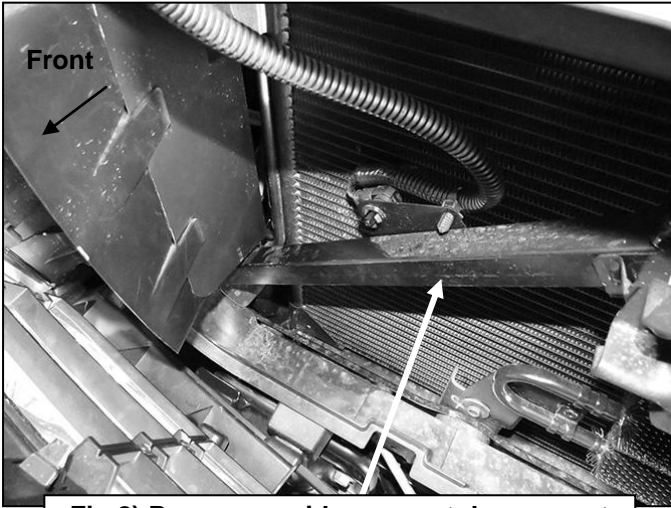

Fig 8) Passenger side square tube support between grille and radiator pictured
7. Locate the square tube support braces running up at an angle from the top of the frame channel to the bottom of the hood release mechanism, **(Figure 8)**. Select the passenger side Inner Top Bracket and (1) "U" Backing Plate, **(Figure 9)**. Hold the "U" Bracket up to and around the back of the square tube, **(Figure 10)**. Bolt the Inner Top Bracket to the "U" Bracket with (2) 6mm x 25mm Hex Bolts, (2) 6mm Lock Washers and (2) 6mm Flat Washers, **(Figure 11)**. Leave loose at this time.